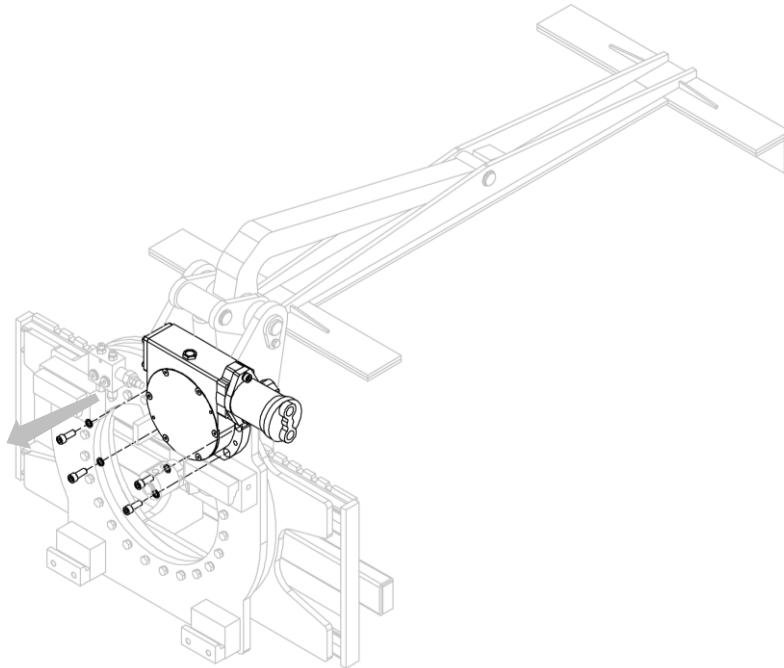

Figure 23
3. Remove the gearbox-motor pair from the equipment assembly, after removing the corresponding bolts (see *Figure 23*).